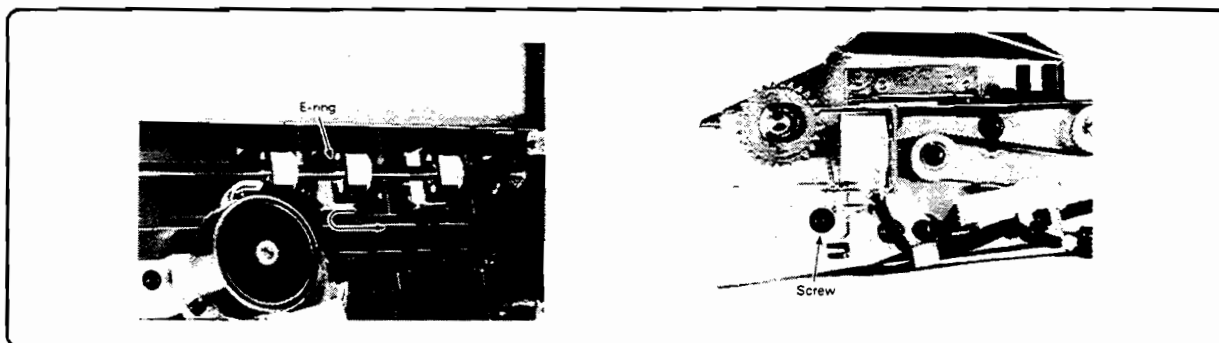

Figure 6-157. Retaining Dowel Pin and Solenoid
5. For each roller, remove the e-ring, push the roller toward the rear enough to allow removal of the retaining dowel pin; then remove the roller (Figure 6-157).
6. Remove the e-ring and remove the front bearing (Figure 6-157).
7. Remove the screw holding the solenoid mount, shift the roller shaft, and remove the bearing from the rear side plate (Figure 6-157).
8. Remove the E-ring on each roller. Push the roller towards the rear to allow removal of the retaining dowel pin and then remove the roller (Figure 6-157).